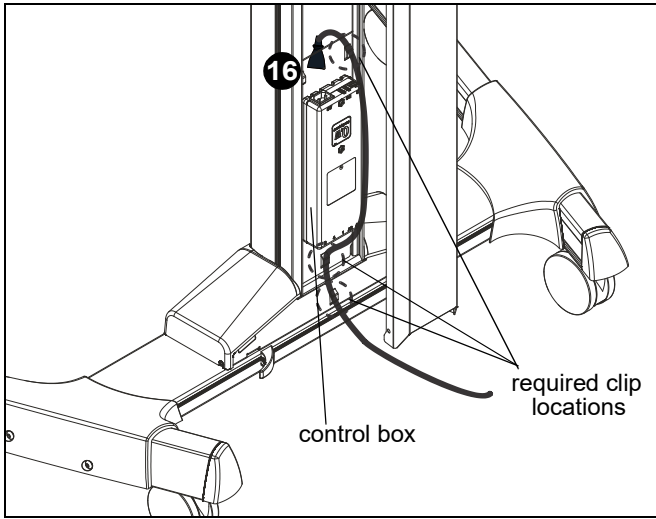

Figure 9
16. Plug in power cable (V) to control box and route along side of control box. Provide strain relief using the cable ties (K) and cable clips. All three cable clips MUST be used to prevent cable from rubbing against lower edge of cover! (See Figure 9)